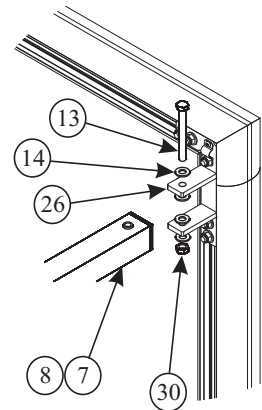

Fig.8
**6 Attaching Goal Frame to Sidebars** - Lift the assembled goal frame into the upright position and stand in front of the bottom sidebars, two people will have to remain holding the goal frame in position whilst the other individual connects the goal frame to the bottom side bars. Secure together as in step 5 but using M12 x 110mm bolt (13) as shown in Fig 8. Ensuring that the upright has enough clearance from the ground fully tighten all the nuts on the bracket.
**7 Connecting the Support Braces** - With the bottom sidebars in place, drop the support brace (11) onto the spigot of the bottom sidebar. Fix in place using fasteners (15, 19 & 29). Once secure, still having one individual holding the goal frame in position, using the step ladders, lift the top side bars into position upon the support brace. Attach to the through fence arm and goal frame using the same principles as stage 5. With the top sidebars secured fix the support brace into the top side bar spigot with the same fixtures as the bottom.